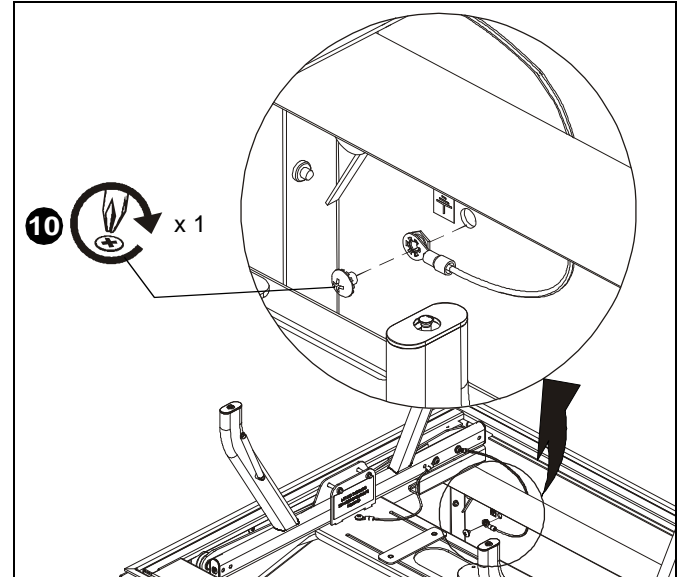

Figure 15
- Reconnect grounding strap from inside front of SL220 to projector cradle, using the Phillips head screw previously removed. (See Figure 15)